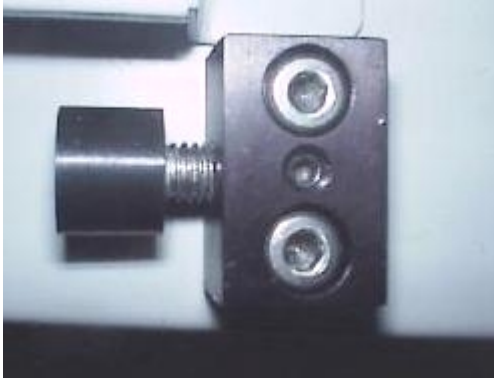

Figure 23: Top and Side View of Indexing Tab
- 11) Loosen center set screw on top of right indexing tab. See Figure 23.